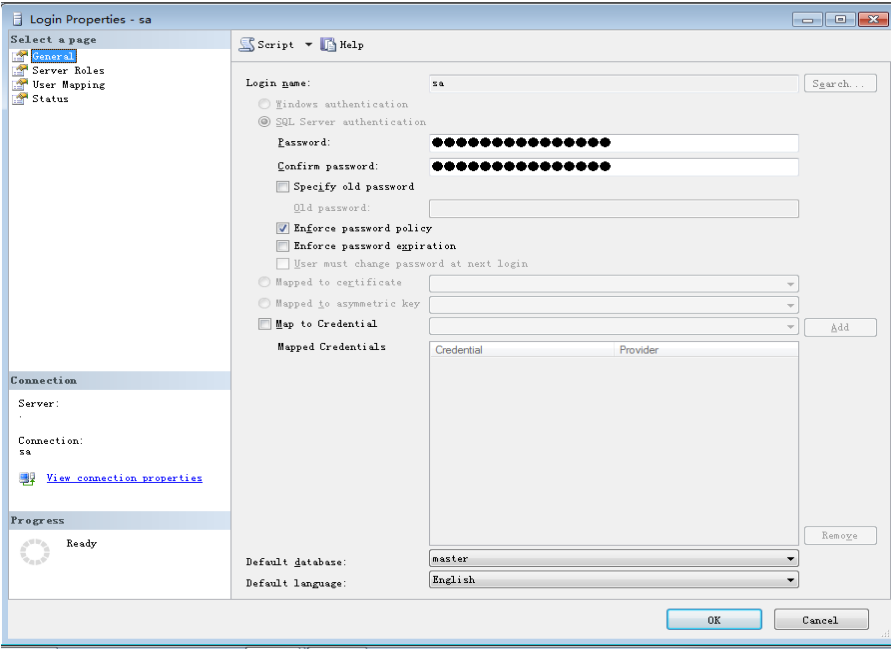

Fig.1.5 Login Properties
**Step Five:** Choose “General” on the left ; Choose “SQL Server authentication” on the right and set password,click “OK” button (see Fig.1.5).